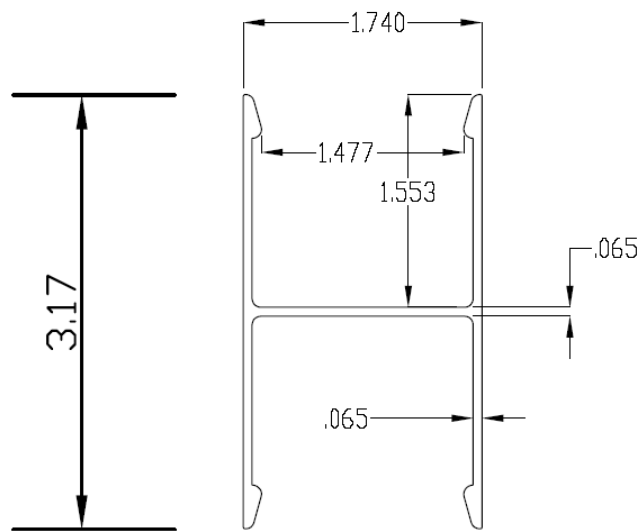

Figure 2 - Alternate Top Rail Aluminum Insert
7.3 The UltiMount[™] ProSpec post mount system utilized with 36" high guards may be mounted in a wood deck or anchored to concrete and/or steel with approved anchors. Installation in wood decks shall be in accordance with the manufacturer's installation instructions (see Figure 2).